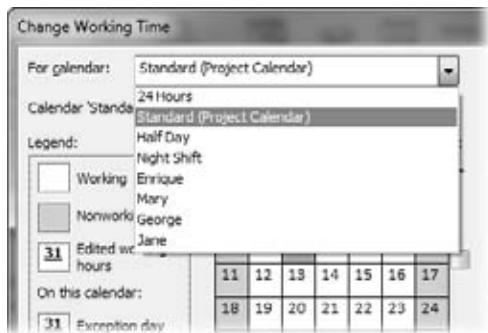

Figure 10-7:
2. **In the "For calendar" drop-down list, choose the calendar you want to modify, as illustrated in Figure 10-7.**